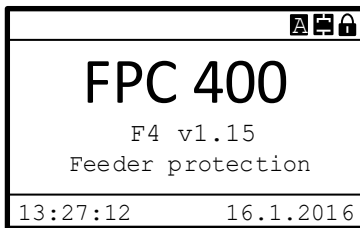

Figure 5.19 Start-up menu
- Alarm LED turns off, Ready LED turns on, Display turns on showing Start-up menu (Figure 5.19) for 5 s